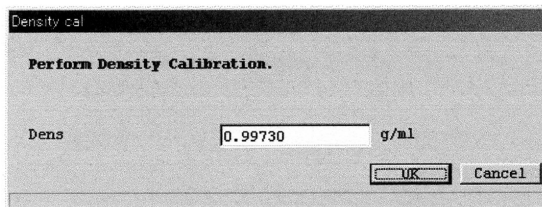

Fig.101
- ① Click on "Diag/Service (T)" at top-level menu of the screen, select "Density cal" at "Calibration" drop-down list, and click on again.
- ② A message box like the one shown in Fig. 101 appears. To start the density calibration, fill the sensor flow tube with density calibration fluid, key in the density value of calibration fluid, and click on "OK" button.